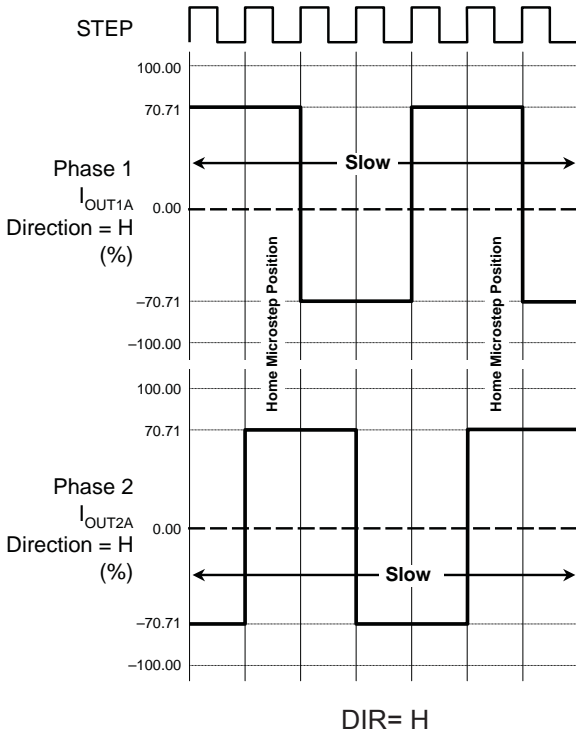

Figure 8. Decay Mode for Full-Step Increments
At power-on or reset, the translator sets the DACs and the phase current polarity to the initial Home state (shown in figures 8 through 12), and the current regulator to Mixed Decay Mode for both phases. When a step command signal occurs on the STEP input, the translator automatically sequences the DACs to the next level and current polarity. (See table 2 for the current-level sequence.) The microstep resolution is set by the combined effect of the MSx inputs, as shown in table 1.
**Mixed Decay Operation.** The bridge operates in Mixed decay mode, at power-on and reset, and during normal running according to the ROSC configuration and the step sequence, as shown in figures 8 through 12. During Mixed decay, when the trip point is reached, the A4988 initially goes into a fast decay mode for 31.25% of the off-time,  $t_{OFF}$ . After that, it switches to Slow decay mode for the remainder of  $t_{OFF}$ . A timing diagram for this feature appears on the next page.
**Reset Input (RESET).** The  $\overline{RESET}$  input sets the translator to a predefined Home state (shown in figures 8 through 12), and turns off all of the FET outputs. All STEP inputs are ignored until the  $\overline{RESET}$  input is set to high.
**Mixed Decay Operation.** The bridge operates in Mixed Decay mode, depending on the step sequence, as shown in figures 8 through 12. As the trip point is reached, the A4988 initially goes into a fast decay mode for 31.25% of the off-time,  $t_{\text{OFF}}$ . After that, it switches to Slow Decay mode for the remainder of  $t_{\text{OFF}}$ . A timing diagram for this feature appears in figure 7.